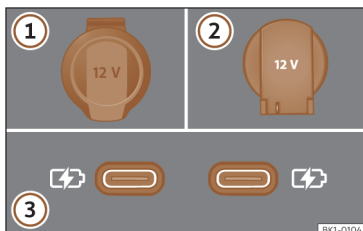

Fig. 150 Vehicle 12-volt socket.
>>> **Fig. 150**
Depending on the equipment and the country, the vehicle may also have USB ports **exclusively for charging or as a power socket** >>> **Fig. 150 ③**.